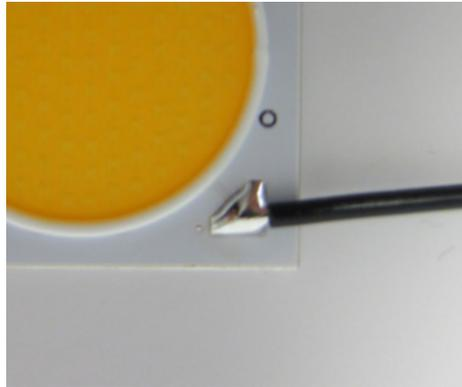

Figure 9: Example of a good solder joint
soldering iron to prevent the formation of icicles. Allow the solder joint to cool until the molten solder solidifies. Do not move the wire or the array during this time. Figure 9 shows an example of a good solder joint. Signs of an overheated solder joint include solder spike formations and burnt flux residue. If these signs are observed, consider reducing the solder time or the soldering iron temperature. The process of soldering wires to the array should take just a few seconds.
- d. Allow the solder joint to cool until the molten solder solidifies. Do not move the wire of the array during this time. Figure 9 shows an example of a good solder joint.